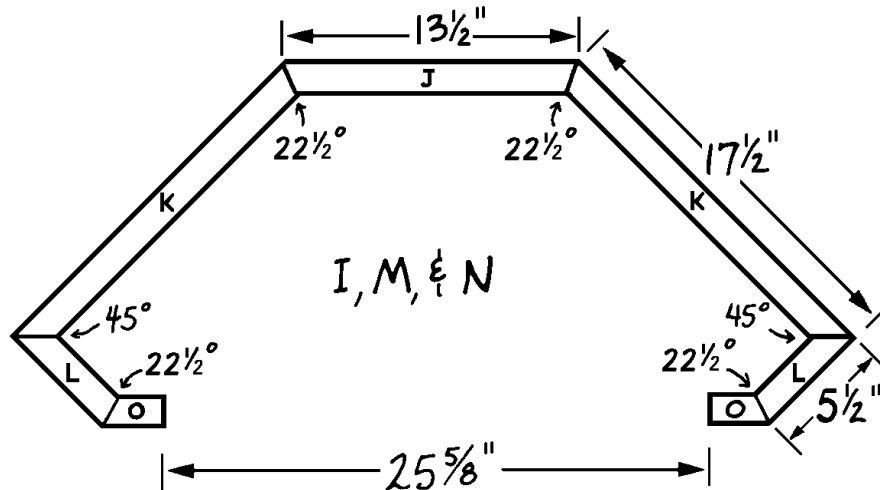
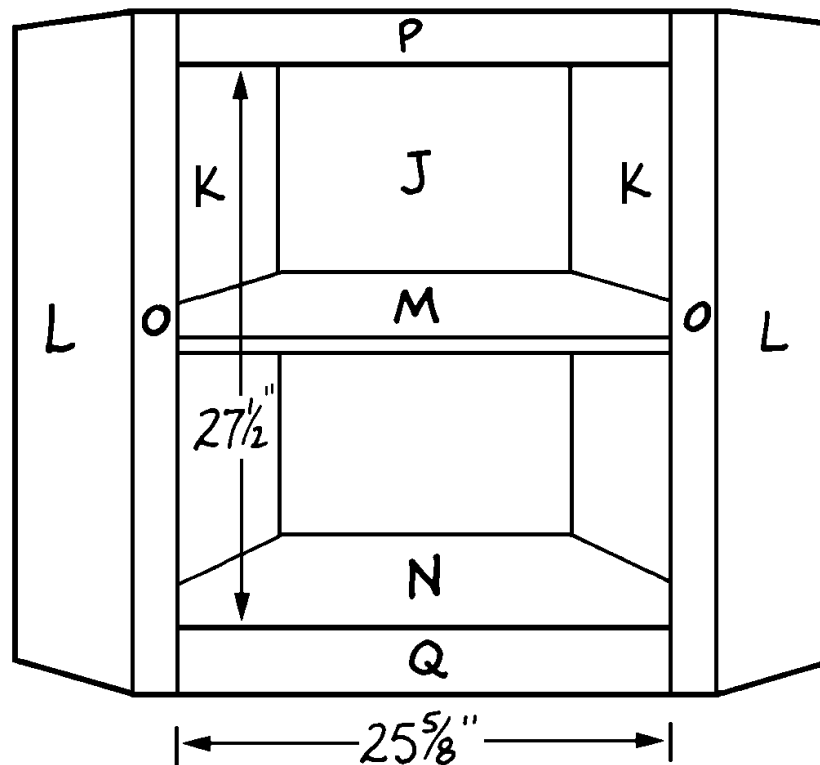

Figure 5
Figure 6
2. Cut one 13-1/2" x 34-1/2" lower back (J) from 3/4" thick plywood.
3. Bevel each of the 34-1/2"-long sides of the lower back (J) at 22-1/2 degrees, as shown in *Figure 5*.
4. Cut two lower sides (K) from 3/4" thick plywood, each measuring 17-1/2" x 34-1/2".
5. Bevel one 34-1/2" edge of each lower side (K) at 22-1/2 degrees. Bevel the opposite edge at a 45-degree angle (see *Figure 5*)
6. Cut two 34-1/2"-long lower fronts (L) from 1 x 6 pine.
7. Bevel one of the 34-1/2"-long edges of each of the lower fronts (L) at a 45-degree angle. Bevel the opposite edge at 22-1/2 degrees.
8. The assembly of the lower cabinet is shown in *Figures 5* and *6*. Again, enlist the services of a helper and study the diagrams before beginning the assembly.
11. Repeat Step 10 to attach the remaining lower side (K) to the lower top (I) and the lower back (J).
12. The next step is to add the two lower fronts (L), using *Figures 5 and 6* as assembly guides. Note that the 45-degree beveled edges of the lower fronts (L) and the lower sides (K) fit together. Glue the lower fronts (L) in place and insert 3d finishing nails spaced about 3" through their beveled edges and into the beveled edges of the lower sides (K). Also insert 1-1/4" screws through the lower fronts (L) into the edge of the lower top (I).
1. Turn the lower cabinet assembly right side up. Cut two lower vertical facers (O) from 1 x 4 pine, each 34-1/2" long.
2. Rip each of the lower vertical facers (O) to 2-1/4" in width.
3. Bevel one 34-1/2"-long edge of each lower vertical facer (O) at 22-1/2 degrees.
4. Note in *Figure 5* that the beveled edge of the lower vertical facer matches the beveled edge of the lower front (L). Attach one lower vertical facer (O) to the left lower front (L), the lower shelf (M), and the lower top (I), as shown in *Figure 6*, using two 3d finishing nails driven in just far enough to hold the pieces in place.
5. Repeat Step 4 to attach the remaining lower vertical facers (O) to the other side of the cabinet assembly.
6. Check the width of the opening between the two lower vertical facers (O) along the exposed edge of the lower floor (N), across the center of the opening, and across the top. The opening should measure exactly 25-5/8". If necessary, remove the two lower vertical facers (O) and alter them to make the opening conform to this measurement. Then glue the two lower vertical facers (O) in place and drive 3d finishing nails, spaced about 4" apart, through the beveled edges of the lower fronts (L) into the edges of the lower vertical facers (O). Also insert 1-1/4" screws through the facers (O). Also insert 1-1/4" screws through the facers (O) into the edges of the lower floor (N) and lower shelf (M).
7. From 1 x 4 pine, cut one 25-5/8" long lower top horizontal facer (P) and one 25-5/8"-long lower bottom horizontal facer (Q).
8. Fit the lower bottom horizontal facer (Q) between the two lower vertical facers (O), positioning it so that its top edge is flush with the upper surface of the lower floor (N). Glue the facer (Q) in place and secure it with 3d finishing nails driven through the facer (Q) and into the edge of the floor (N). Also toenail the ends of the facer (Q) to the edges of the lower vertical facers (O).
9. Fit the lower top horizontal facer (P) between the two lower vertical facers (O), so that it is flush at the top. Secure it temporarily by driving two 3d finishing nails through the facer (P) and into the edge of the lower top (I). Hammer the nails in only far enough to hold the piece in place.
10. Now measure the opening from top to bottom on the left, middle, and right sides. The opening should measure exactly 27-1/2". If necessary, remove the lower top horizontal facer (P) and alter it so that the opening conforms to this measurement.
11. Glue the lower top horizontal facer (P) in place, securing it by driving 3d finishing nails through it and into the edge of the lower top (I). Space the nails about 3" apart. Also toenail the facer by driving nails through its edge and into the lower vertical facers (O).